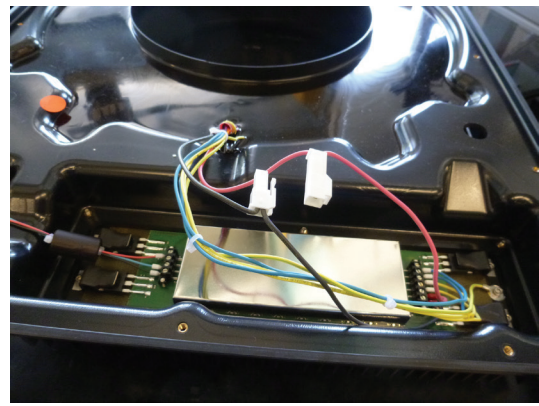

Fig. 10: Remove the secondary winding short circuit
- o Remove the secondary winding short circuit by disconnecting the one pin connectors (fig. 10).